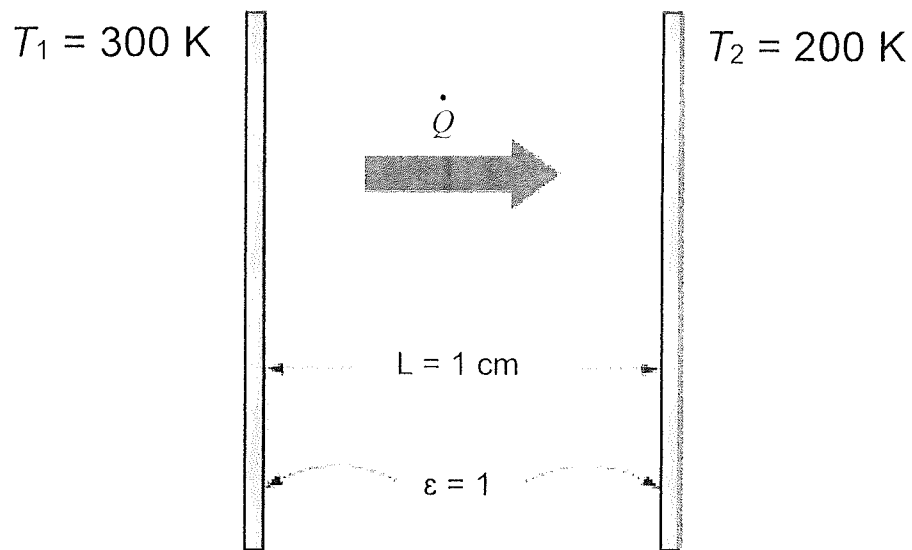

Figure 3. Heat transfer between two plates
- [b] Consider steady heat transfer between two large parallel plates at constant temperatures of $T_1 = 300$ K and $T_2 = 200$ K that are $L = 1$ cm apart, as shown in Figure 3. Assuming the surfaces to be black (emissivity = 1); determine the rate of heat transfer between the plates per unit surface area by assuming the gap between the plates is